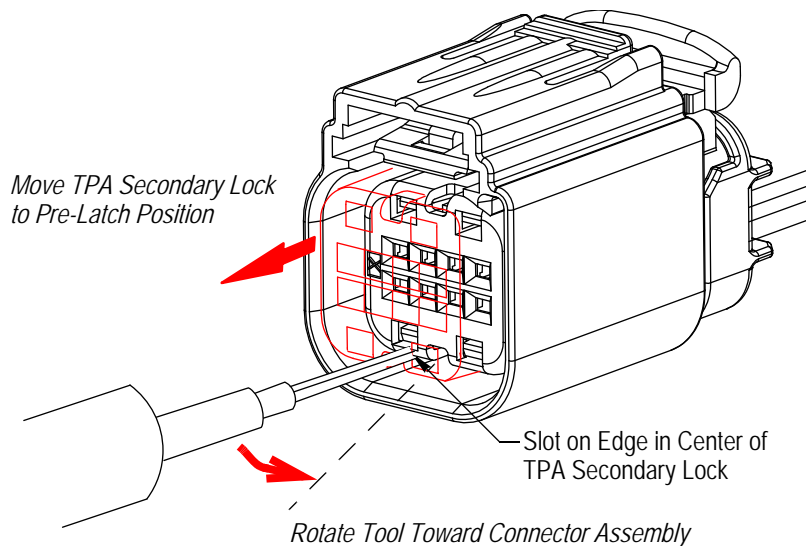

Figure 2
2. Rotate the tool toward the connector assembly to disengage the TPA secondary lock and move it to the pre-latch position. See Figure 2.